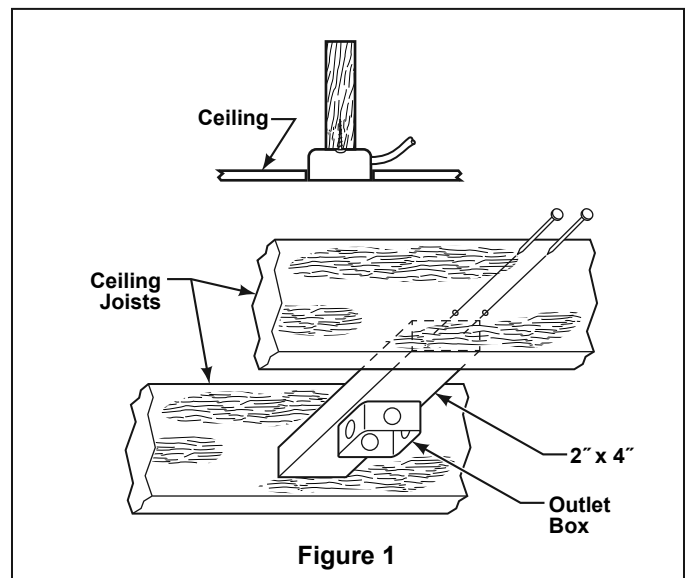

Figure 1
Your new ceiling fan will require a grounded electrical supply line of 120 volts AC, 60 Hz, 15 amp circuit. The outlet box must be securely anchored and capable of withstanding a load of at least 50 lbs. **Figure 1** depicts different structural configurations that may be used for mounting the outlet box.
2. Remove the Hanger Ball by loosening the setscrew in the Hanger Ball until the ball falls freely down the Downrod. (Figure 1) Remove the Pin from the Downrod, then remove the Hanger Ball. Retain the Pin and Hanger Ball for reinstallation in Step 7.